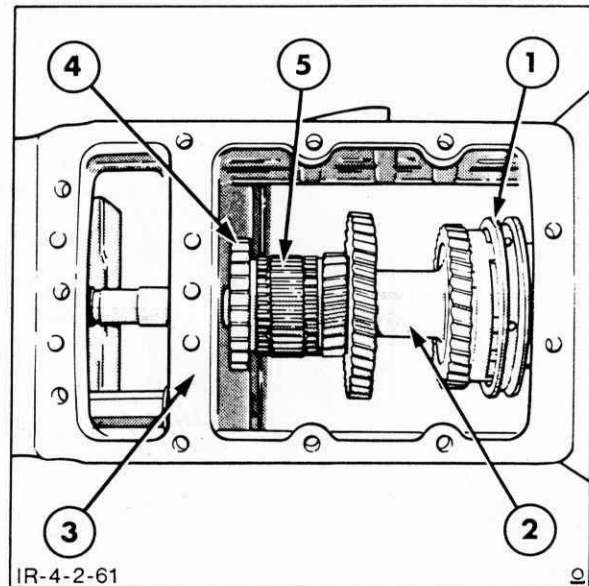

Figure 4-155
3. Install the rear input shaft into the transmission case and rest across the transmission case inner wall, Figure 4-155.